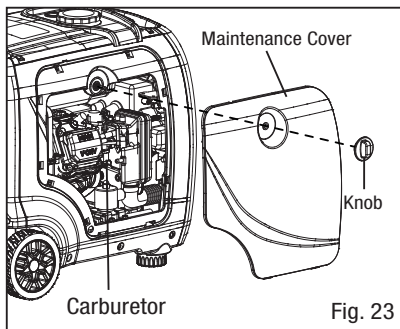
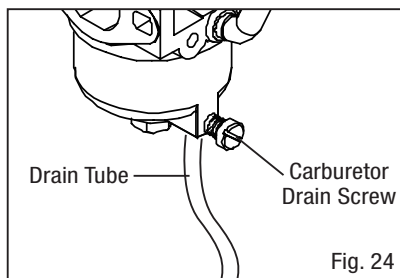

Fig. 23
Fig. 24
4. The carburetor can be accessed between the engine and the air filter (Fig. 23). Locate the transparent tube from the carburetor (Fig. 24) that extends down through the base plate of the generator.
6. Open up the carburetor drain screw (Fig. 24) with a flat-head screwdriver (not included) and drain out any gasoline that has built up inside the carburetor through the drain tube into the approved gasoline-storage container.